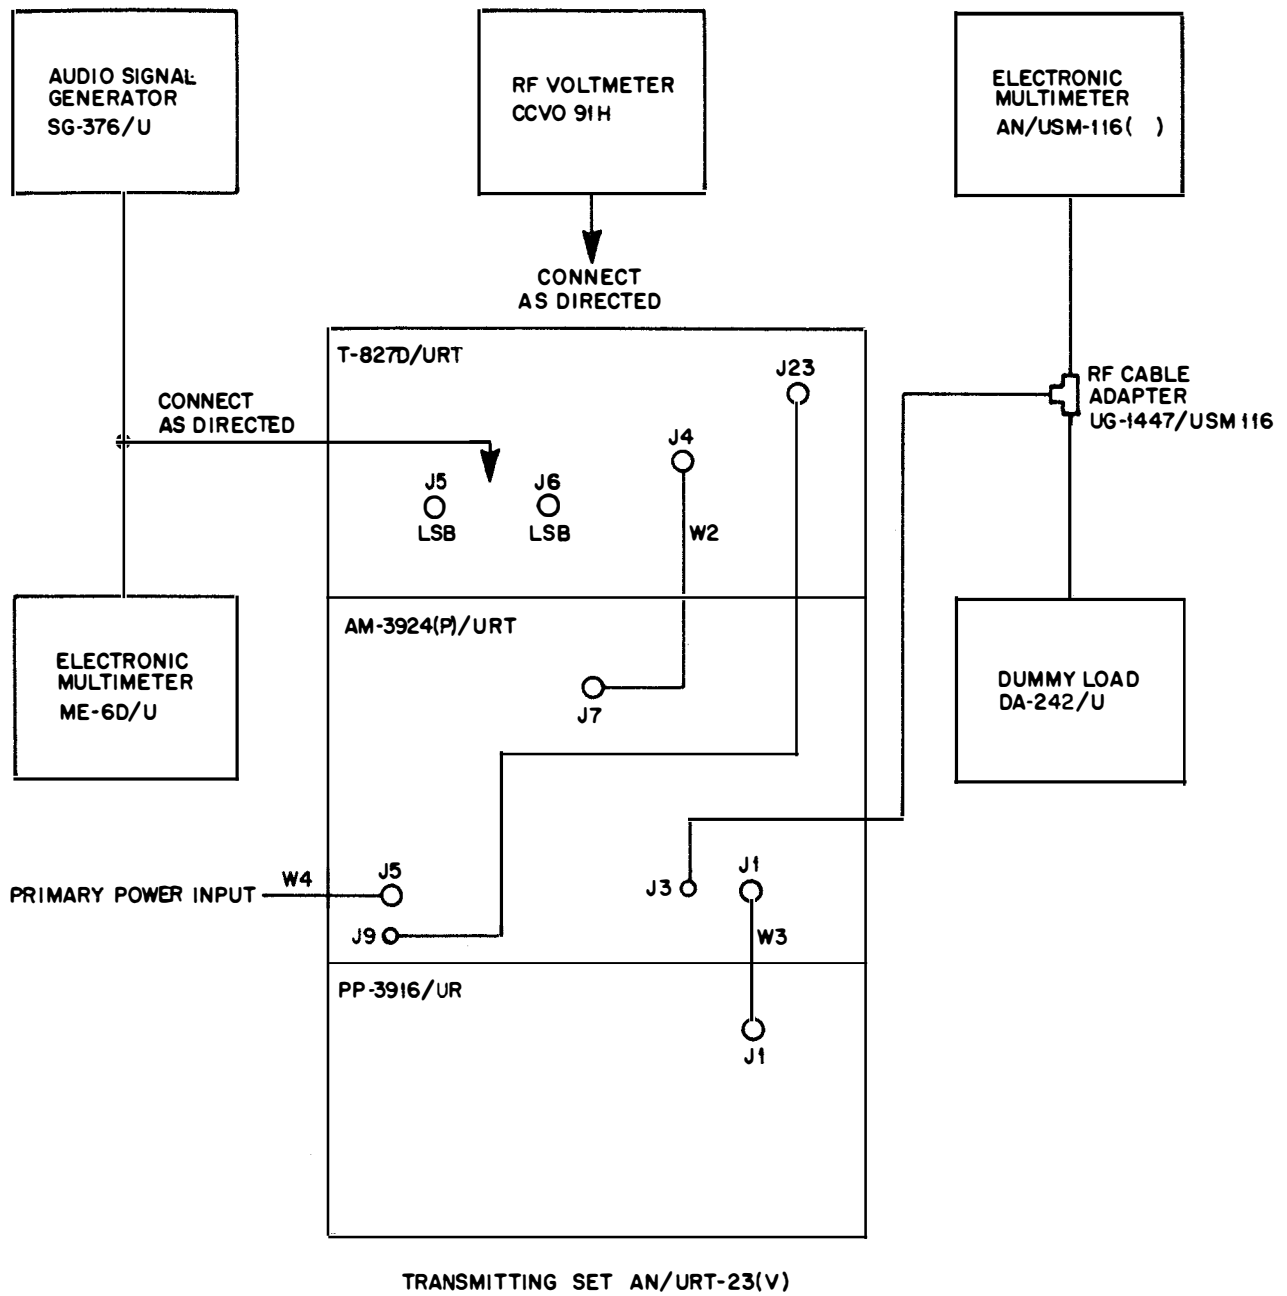

Figure 2-5. AN/URT-23(V) Alignment Test Setup
- b. Refer to paragraph 2-40 and Table 2-10 for audio connections and standard audio inputs. Connect test equipment as shown in figure 2-5.
a. Turn all test equipment on and allow sufficient time for warmup. Connect test equipment as shown in figure 2-5.
1. For standard audio input, connect ME-6D/U as shown in figure 2-5. Connect meter and generator as directed in paragraph 2-40 or 2-41 either to J5 or J6 of the T-827()/URT or to an alternate as described in paragraph 2-40.